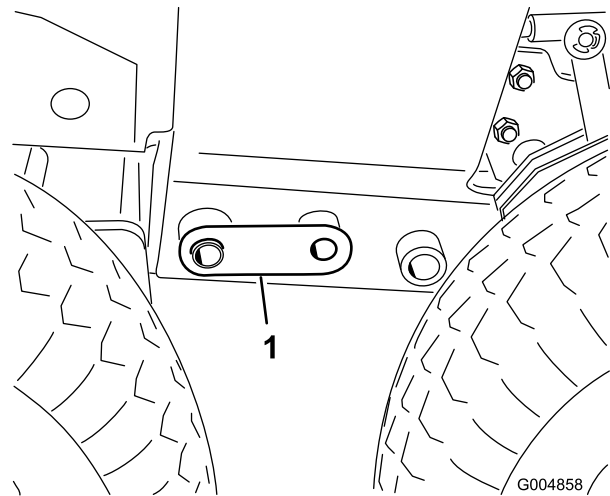

Figure 112
22. Adjust the floor jack to line up the 1.00 inch holes in the frame and install a coupler pin on each side (Figure 112).